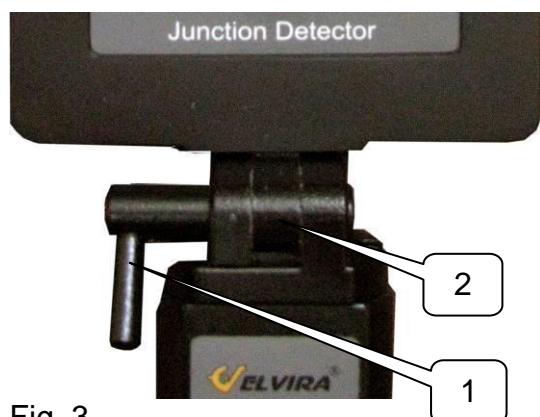

Fig. 3
**4.2.** Hinge joint of the receiving-transmitting antenna unit with a knob is designed to transform the unit into transportation position. (see Fig.3). Besides, it helps the operator to fix antenna in a position convenient for search. Fig. 3: 1- Fixing device; 2- Hinge joint.